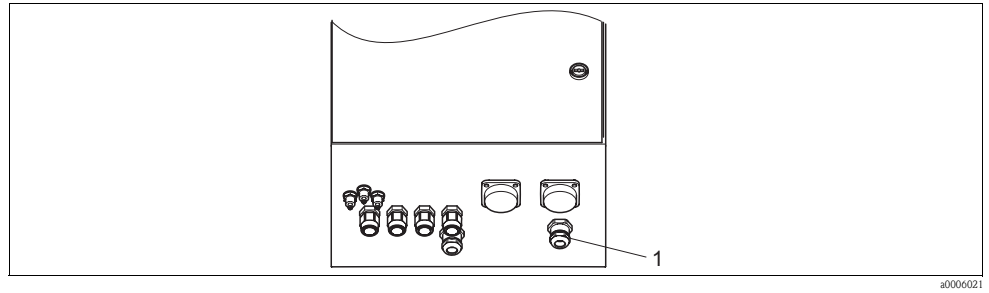

Fig. 22: Guiding the level probe cable
1. Guide the cables of the level probes for the buffer and cleaner through the threefold Pg gland behind the multihose connection (see Fig. 22).